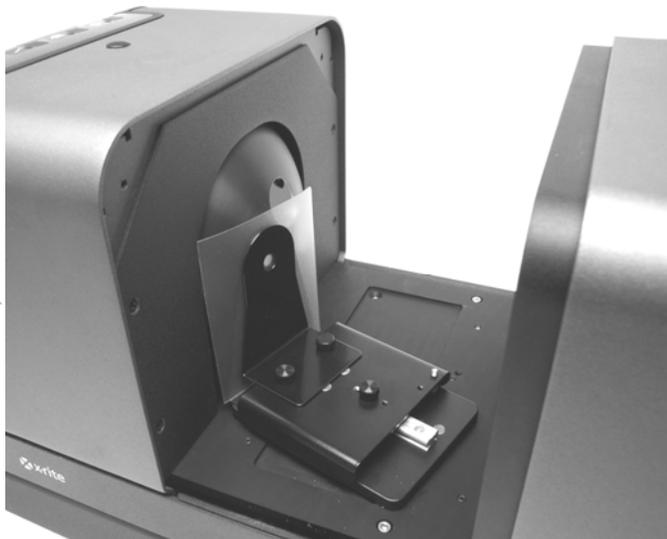

Figure 7. Transmission holder at the sphere (total measurement)
2. Pull the clamp back and position the sample between the clamp and stop (refer to figures 7 and 8). You may want to temporarily tighten the carriage base thumb screw to hold the clap in place while positioning the sample. Slowly release the sample clamp/carriage base to secure the sample.